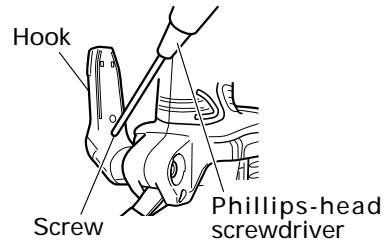

Fig. 11
- (1) Loosen the hook screw with a phillips-head screwdriver (No. 1) (Fig. 11).